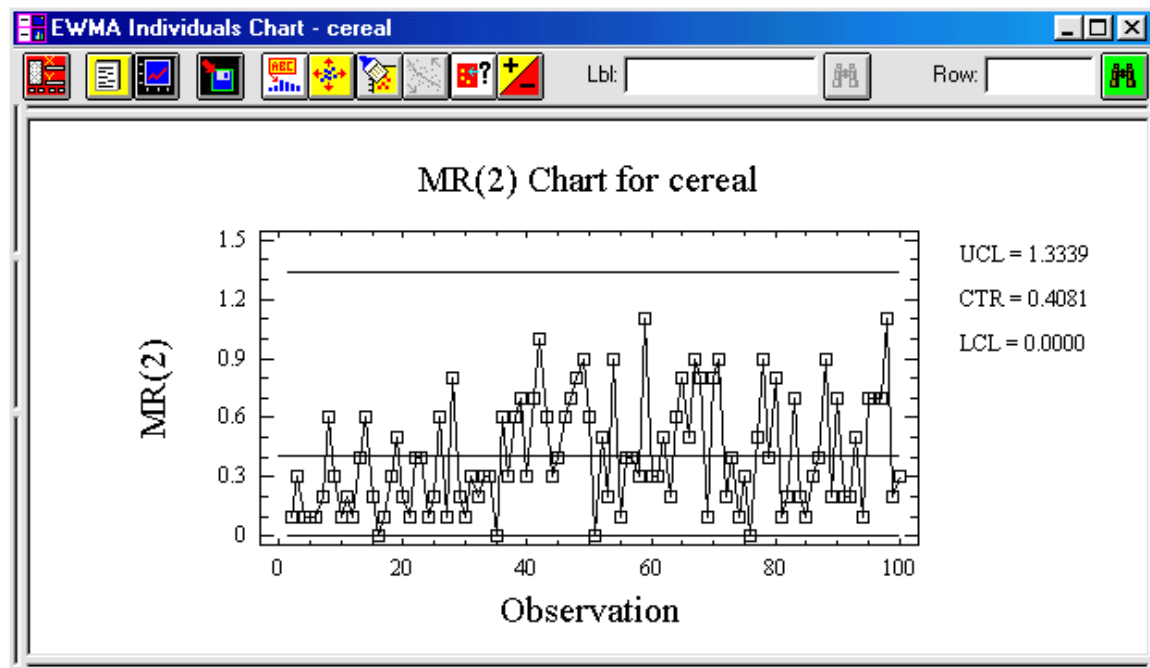

Figure 5-49. MR(2) Chart
The MR(2) Chart option creates a plot of the moving ranges for each of the measurements (see Figure 5-49). It identifies the points that are beyond the control limits.